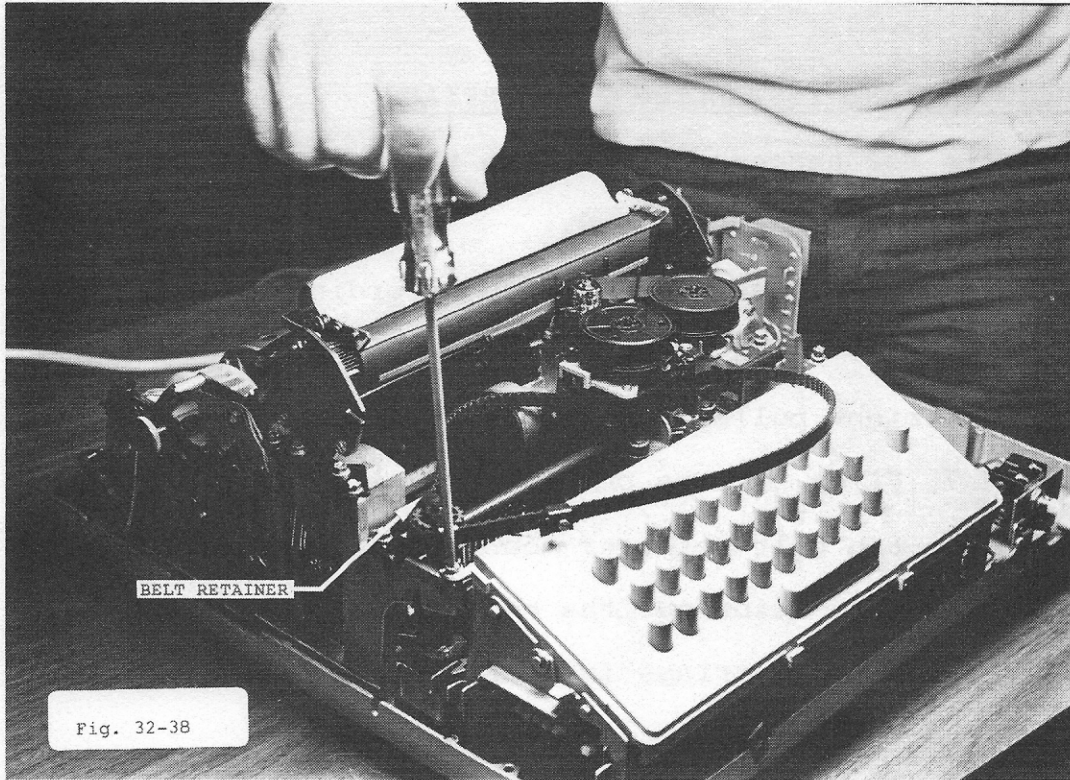

Fig. 32-38
4. Loosen the belt retainer mounting screws according to Fig. 32-38. Slide out the belt retainer.